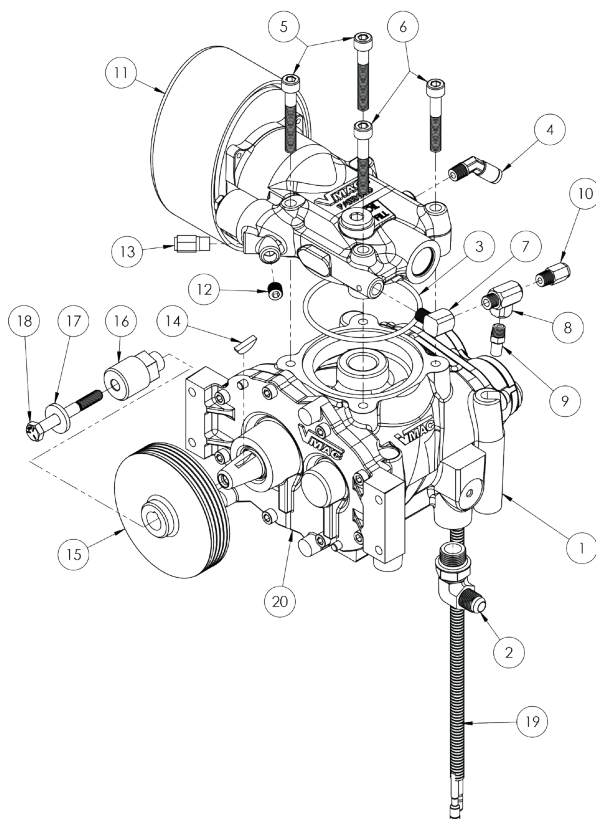

Figure 91 — Compressor Assembly (P190004)
3. Compressor Assembly, P190004 (Figure 91)